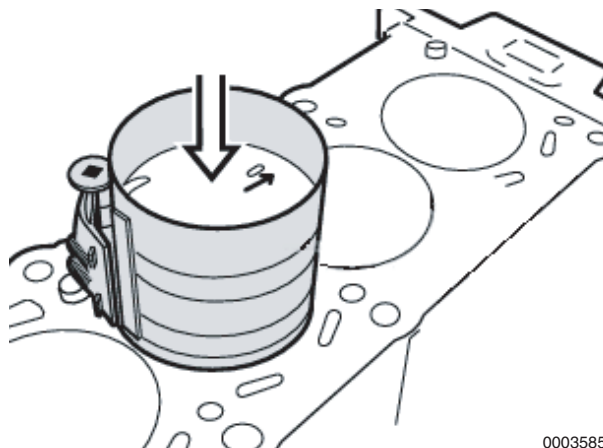

Figure 5-60
8. Carefully install the connecting rod and piston so that the arrow on the piston points toward the front end of the engine (**Figure 5-60**). **NOTICE: NEVER force piston or drive piston into cylinder bore. Install using only finger pressure.**